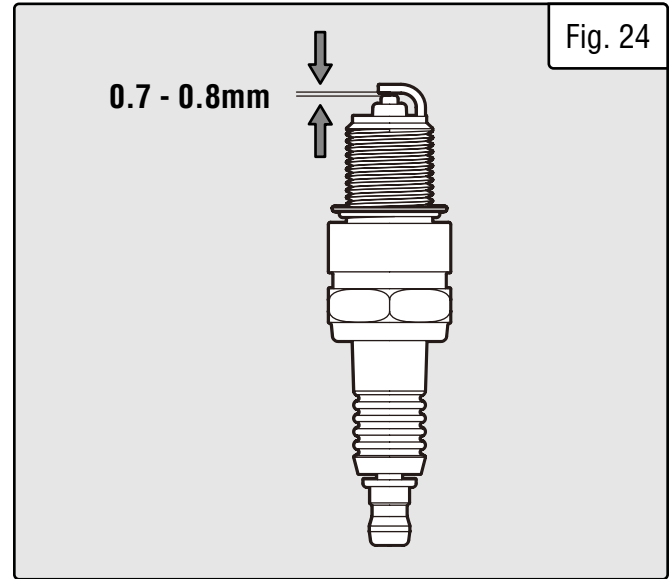

Fig. 24
5. Measure the plug gap with a spark plug gap gauge. The gap should be **0.7 to 0.8 mm (0.028-0.031 in)**. Carefully adjust the gap if necessary. See Fig. 24.